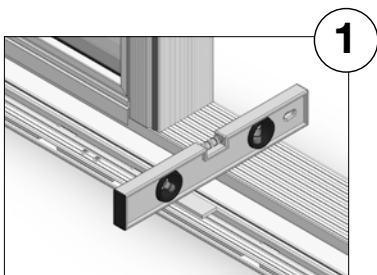

Figure 5: Check level in in/out direction using the supplied green 5 mm plastic blocks and a spirit level
1. Shimming of threshold as described above (figure 5).